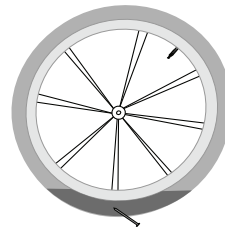

Figure 3. Before removing embedded object, rotate object to bottom of wheel to enhance sealing of puncture
- + Objects embedded in the tire tread should be removed. To help seal the puncture, rotate the embedded objects to the 6 o'clock position (Figure 3) before removing the object.